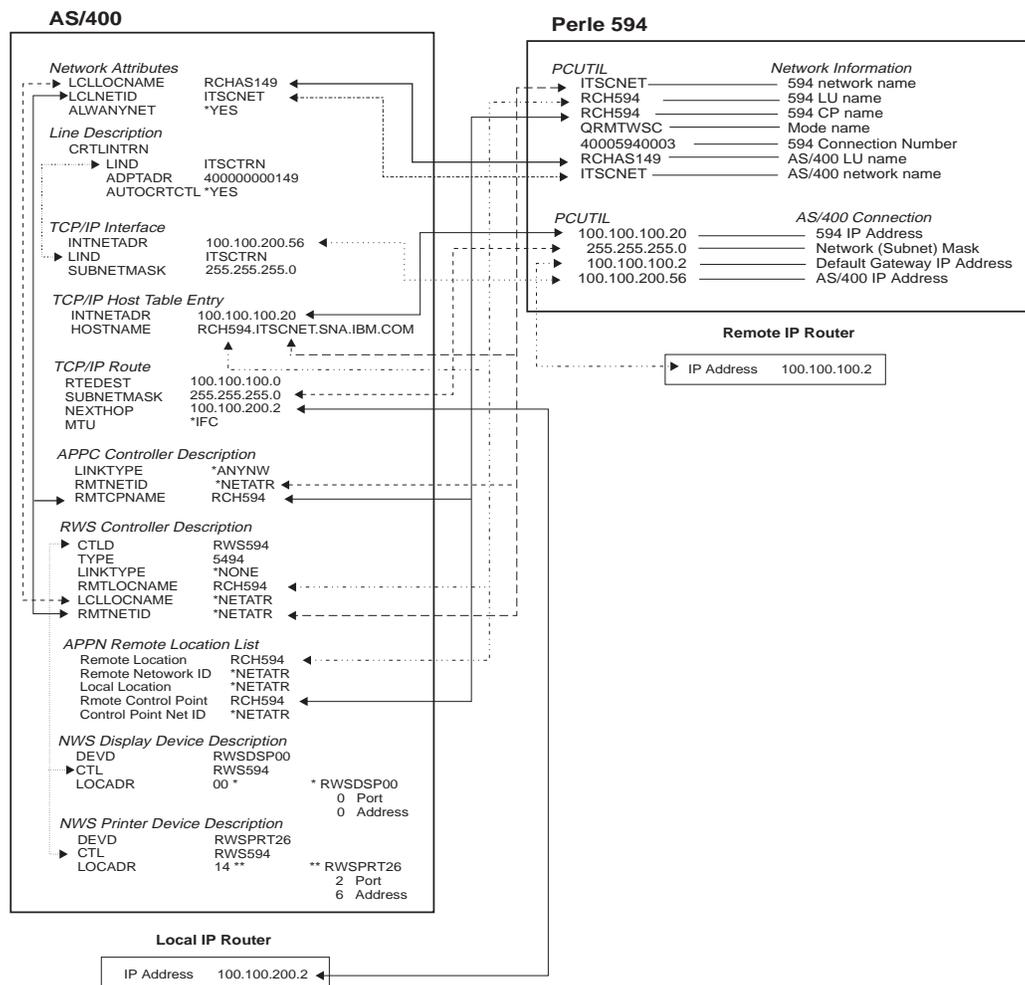

Fig. 22: AS/400 TCP/IP Token-Ring config. cross-reference
- Fig. 22: AS/400 TCP/IP Token-Ring config. cross-reference 12